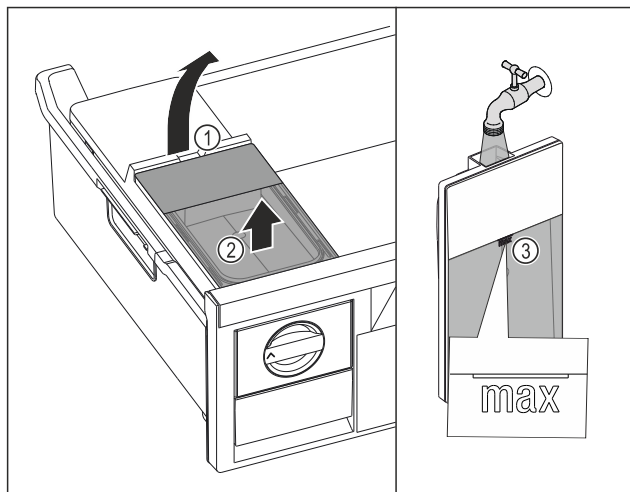

Fig. 138
- Lift the water tank at the recess Fig. 138 (1).
- Remove the water tank by lifting it upwards. Fig. 138 (2)
- Fill the water tank with drinking water up to the mark Fig. 138 (3).